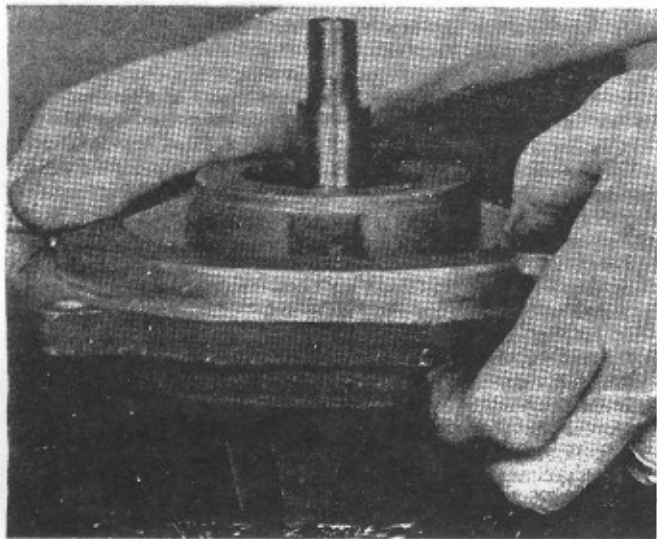

Figure 7
6. Remove three through bolts and remove drive end (DE) housing from slip ring end (SRE) housing and stator. Fig. 7.